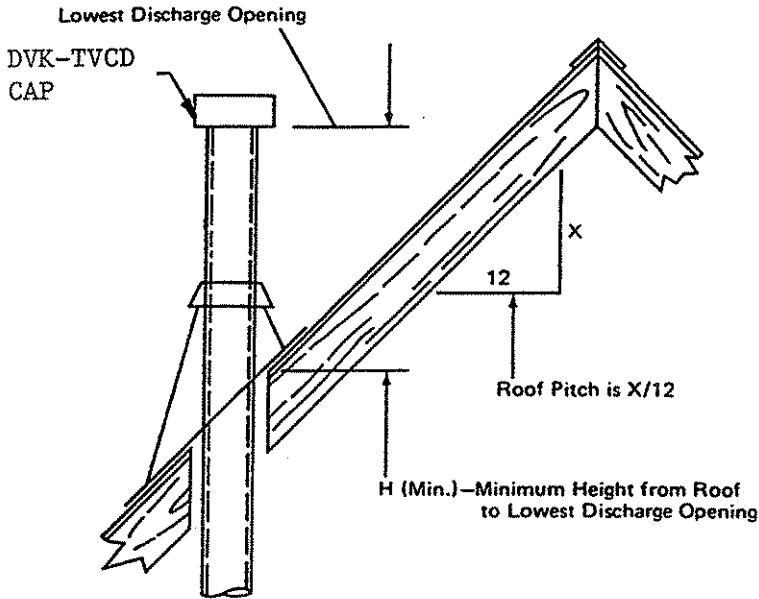

FIGURE 17
**WARNING:** Major U.S. building codes specify minimum chimney and/or vent height above the roof top. These minimum heights are necessary in the interest of safety. Figure 17 and Table 6 show minimum heights, provided the termination cap is at least 8-feet from a vertical wall.